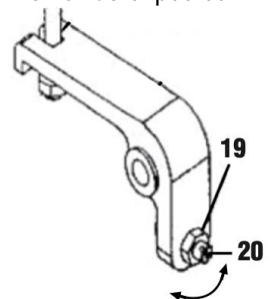

Fig. 5
1. Use a wrench and a flat screwdriver (not included) to loosen the hex nut (#19) (Fig. 5).
2. Turn the socket head cap screw (#20) both clockwise and counterclockwise (Fig. 5).